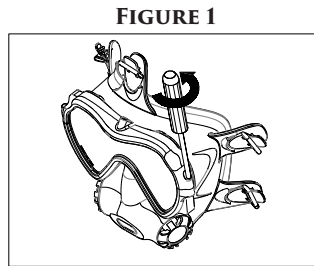

FIGURE 1
1. Use a #2 Phillips screw driver to remove screw, washer, and nut located on each side of the lens (Fig. 1). Note: The nut may fall out of the bottom once unthreaded from the screw.